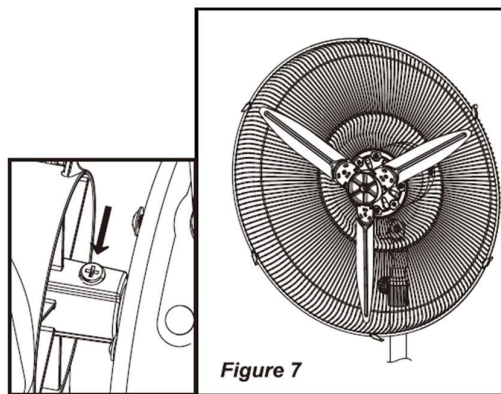

Figure 7
2. Fully tighten up the lateral screw of the fan blade. Be careful, the fan blade should be assembled in the correct direction. (Figure 7)